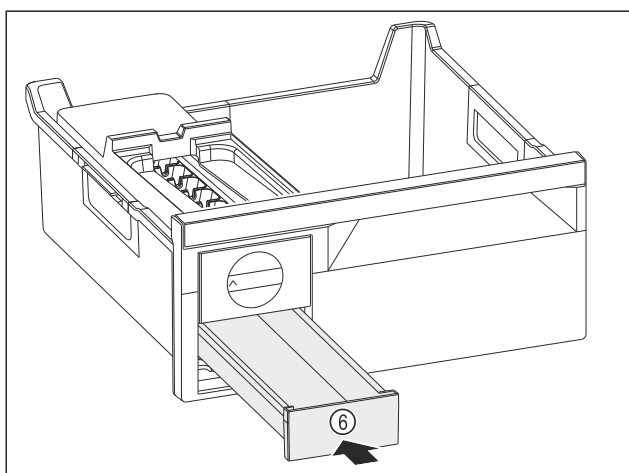

Fig. 176
- Insert the ice cube drawer Fig. 176 (6).